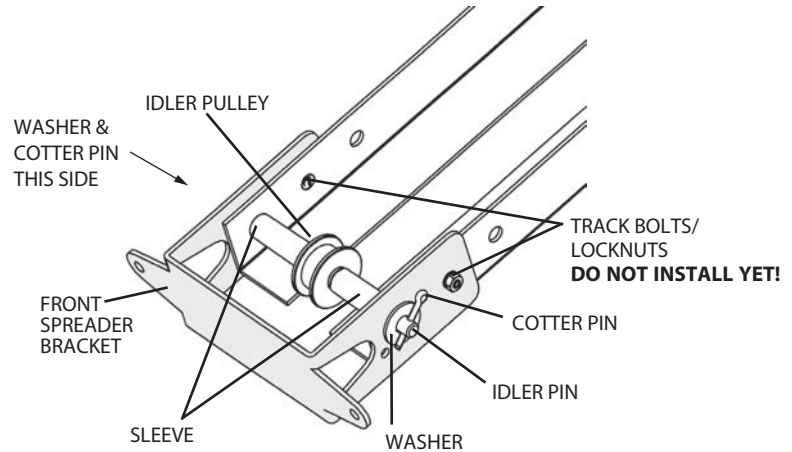

Figure 5
5) Install the idler pulley inside the track by inserting the 7/16" x 7" idler pin through one side of the track and as you feed it through an idler sleeve and the idler pulley followed by the second sleeve. Place fender washer (7/16" x 1-1/4") over each end of idler pin. Secure idler pin by inserting a cotter pin through the hole in each end of idler pin. **Fig. 5.**